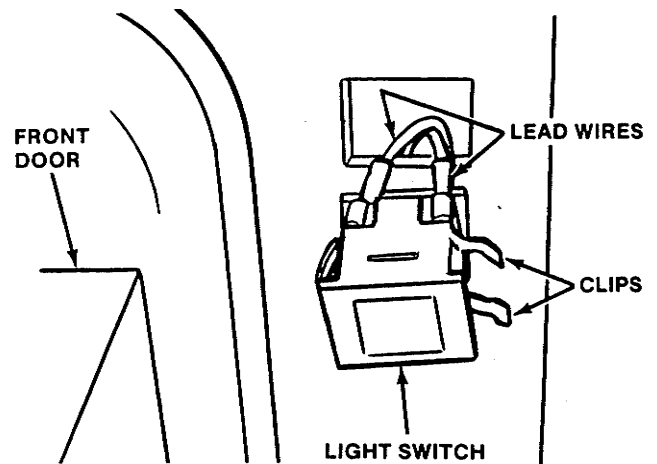

Figure B-1. Light Switch Removal
3. While pulling the light switch out, towards the front of the freezer, apply inward pressure to the clips on the outside of the light switch (Fig. B-1), twist light switch towards the front door and pull through.